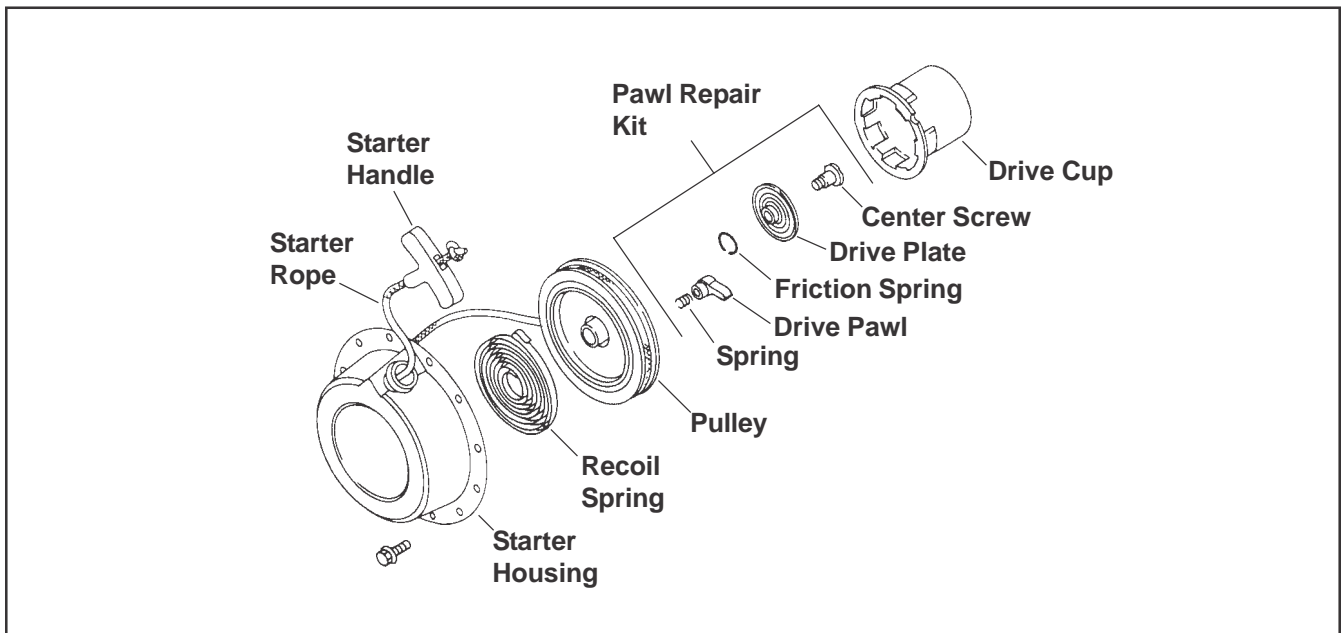

Figure 7-1. Retractable Starter - Exploded View.
4. Carefully inspect the components for wear, cracks, and/or damage. Replace all worn or damaged components. Use only genuine Kohler replacement parts as specified in the parts manuals. All components shown in Figure 7-1 are available as service parts. Do not use nonstandard parts.